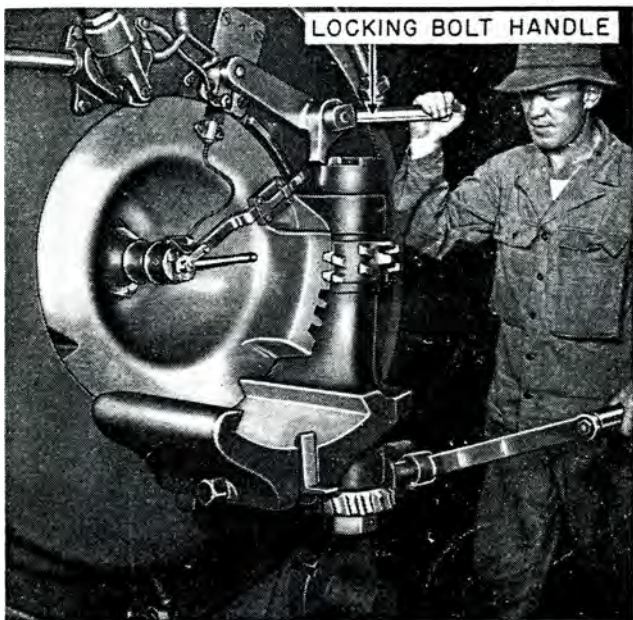

Figure 11. Opening the breechblock.
22. OPERATION OF BREECH MECHANISM. a. To open the breech (fig. 11), the chief of breech unhooks the lanyard (when one is used) from the eye of the firing leaf. No. 1 unlocks the breechblock by pulling down on the locking bolt handle, and turns the crank continuously in a clockwise direction until the tray comes to rest against the hinge.